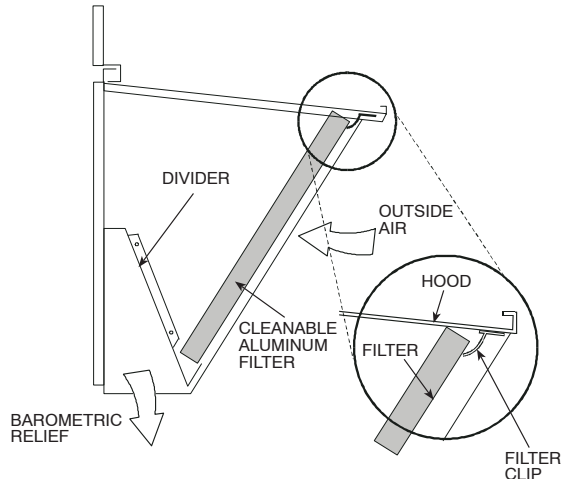

Fig. 14 - Economizer Filter Installation
- Open the filter clips which are located underneath the hood top. Insert the aluminum filter into the bottom filter rack (hood divider). Push the filter into position past the open filter clips. Close the filter clips to lock the filter into place. See Fig. 14.